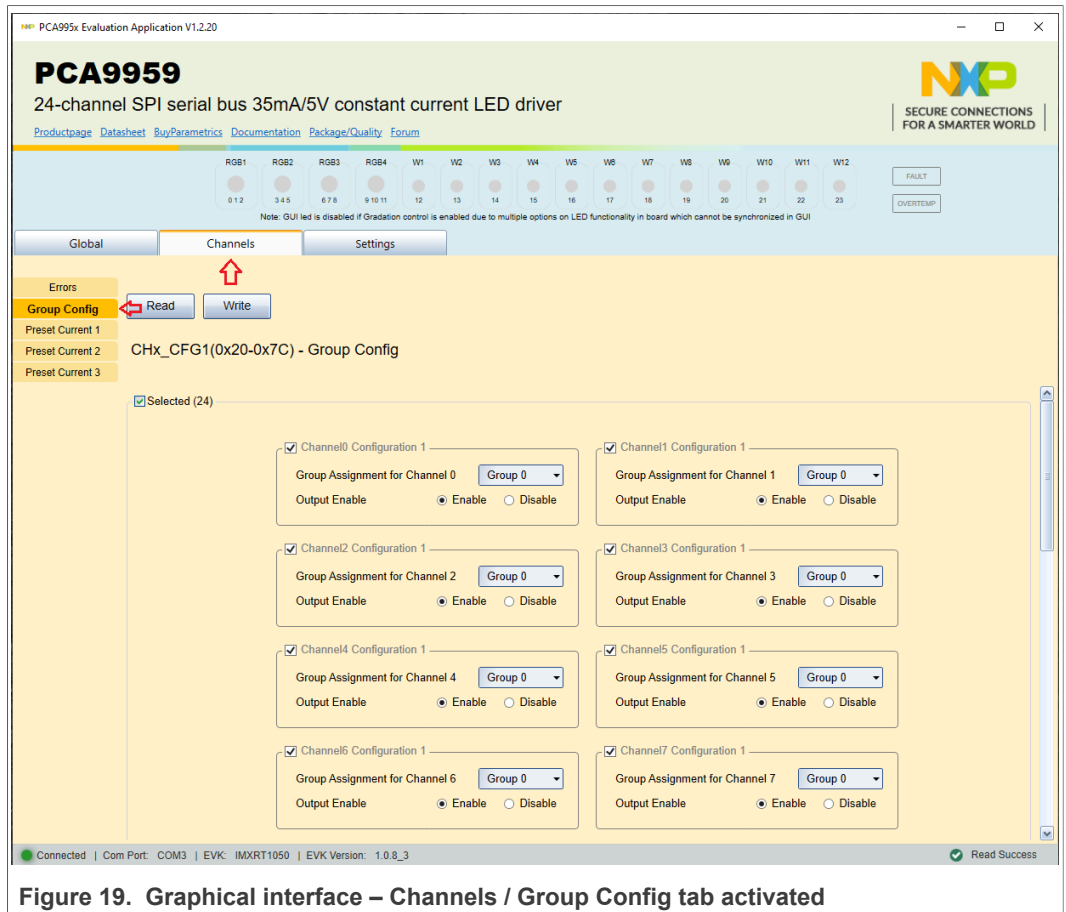

Figure 19. Graphical interface – Channels / Group Config tab activated
12. Go back to the **Channels** tab (a new interface appears, because the MSB of “PAGESEL” register was set with the value “1”). Click **Group Config** secondary tab (see Figure 19). Select "Enable" option for the corresponding channel of the LED you want to turn On (use the schematics to identify the corresponding channel). For a quick check of the entire board, select “Enable” for all 24 channels. At the end, click **Write** (to configure the internal registers of the DUT).